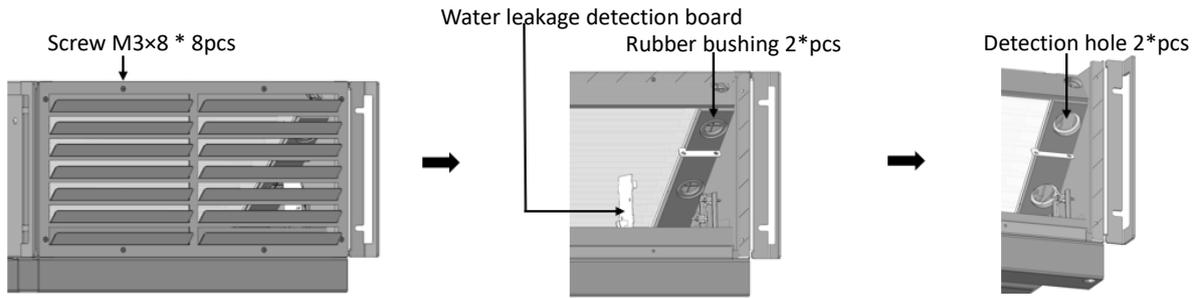
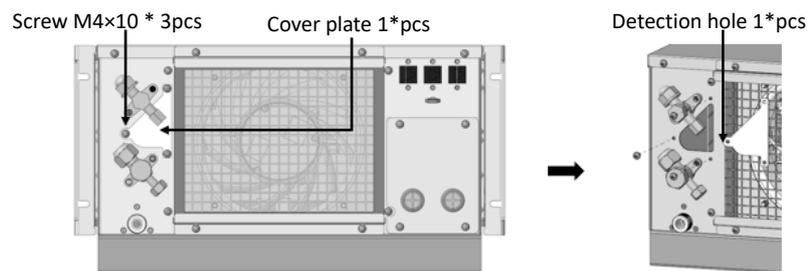

Figure 7-4 Detection Holes in VRC202 (Front)
Figure 7-5 Detection Holes in VRC202 (Rear)
For countries covered by the F-gas regulation, when the low ambient condensing unit (VRC352) is used, both the indoor unit (VRC202) and the low ambient condensing unit should be checked for leakages once a year according to mandatory rules. There are three holes in the indoor unit for detection, as shown in **Figure 7-4** and **Figure 7-5**.
1. Remove the 8 screws, grille, water leakage detection board, and 2 rubber bushing in **Figure 7-4** one by one.
2. Remove the 3 screws and cover plate in **Figure 7-5**.